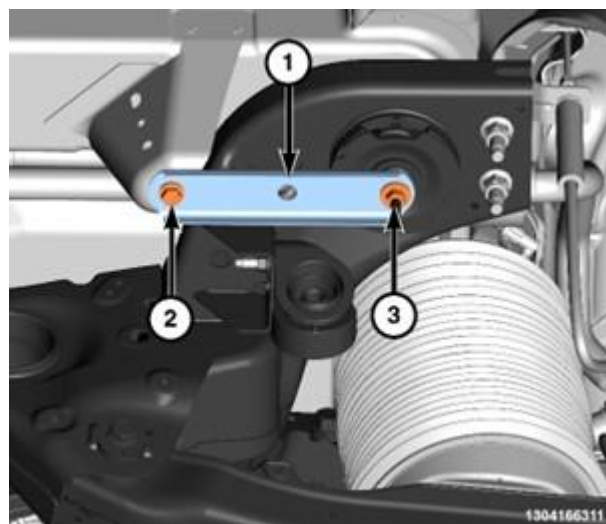

Figure 10 – Rear Support Bracket
11. Remove the bolt (2) and nut (3) and remove the rear crossmember rear support bracket (1) (Figure 10).
23. Install the rear crossmember rear support bracket (1), bolt (2) and nut (3) and tighten to 20 N·m (15 ft. lbs.) (Figure 10).